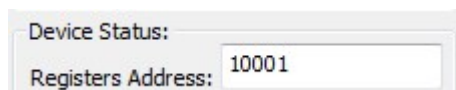

Figure 5.50 Register Address Selection
1. locate the "detailed design"->"device status"-> the input box corresponding to the"register address", the range of the register address is 1~65536, as shown in Figure 5.50